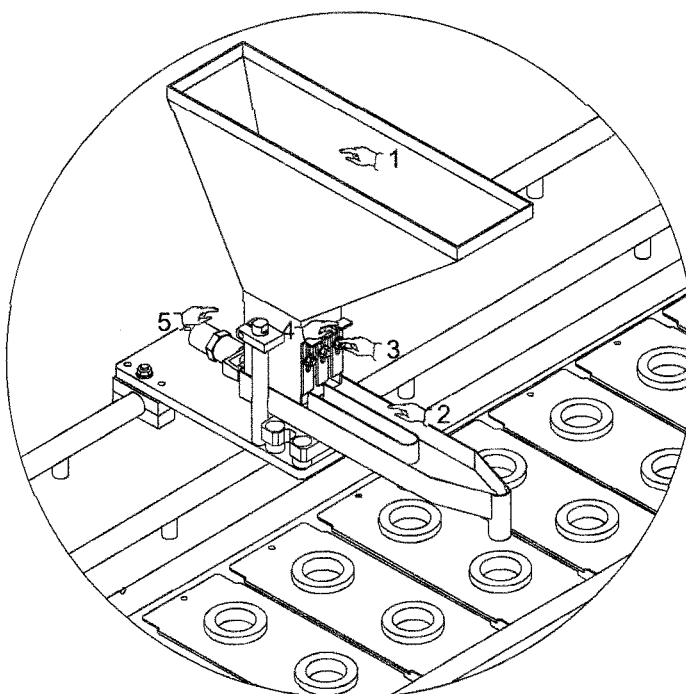

Fig. 6.20
This device, which is mounted on the structure, is used to spread nut granules, chocolate flakes or similar onto the product. The unit consists of a hopper (*Pos. 1, Fig. 6.20*) connected to distribution channels (*Pos. 2, Fig. 6.20*) along which the product flows due to the effect of the vibration induced by a vibrator.
- slacken screws (*Part. 3, Fig. 6.20*) using the wrench and move the adjustable baffles (*Part.*
4 Fig. 6.20), lifting them to increase granule feed or lowering them to reduce feed.
At the end of the adjustment, tighten screws (*Pos. 3, Fig. 6.20*) using the wrench;
rotate the pressure regulator (*Part. 5 Fig. 6.20*) clockwise to increase the working pressure of the vibrator in proportion to the quantity of granules fed, or anticlockwise to reduce it.
If any component malfunctions, press the emergency stop buttons (*Part. 1/2, Fig. 6.20*) to disable all the machine's electrical functions.
To reset the machine, first remedy the cause of the malfunction, rotate the emergency stop button  (Part. 1, Fig. 6.20) anticlockwise and release it, then
press the reset button  button (*Fig. 6.20*) on the operator interface panel or press the button on the cord emergency stop switch (*Part. 2, Fig. 6.20*) and then press the reset button (*Fig. 6.20*).
- Press the end of production button  (*Fig. 6.20*). All the operating stations in memory will stop automatically.